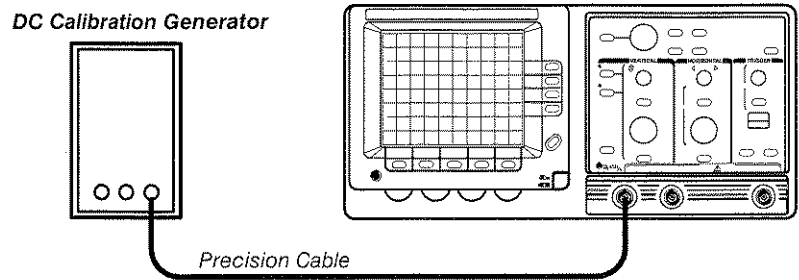

Figure 6-7: Trigger Level Test Setup
8. Connect the DC calibration generator to the **CH 1** input as shown in Figure 6-7.